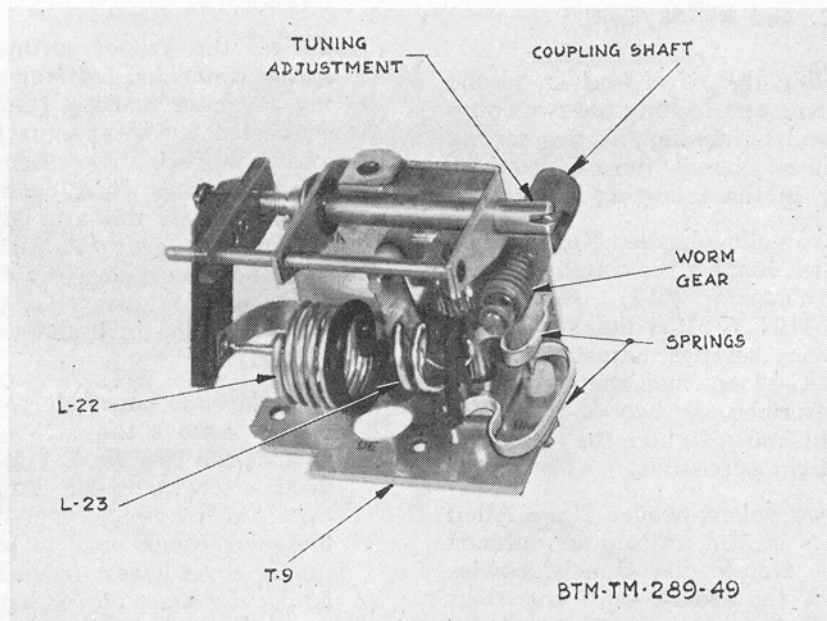

Figure 49. Transmitter antenna coupling assembly.
- (8) The antenna coupling coil and associated components are mounted as a subassembly at the front end of the r-f coil assembly. To replace this subassembly, proceed as follows:
- (f) Lift the subassembly away from the chassis (fig. 49).
- (1) Turn the unit, wiring side up, and remove the r-f compartment cover.
- (2) Remove the r-f compartment parts as described in d above.
- (3) Unsolder all the leads from the capacitor lugs projecting through holes in the chassis plate into the r-f coil compartment.
- (4) Turn the unit component side up.
- (5) Remove the two screws at the front end of the capacitor and the one screw at the rear of the capacitor which hold capacitor C-1 to the chassis.
- (6) Lift the capacitor off the chassis.
- (7) If the capacitor is to be replaced, remove the crown coupling and bellows by loosening the setscrews on the coupling collar, using an Allen wrench.